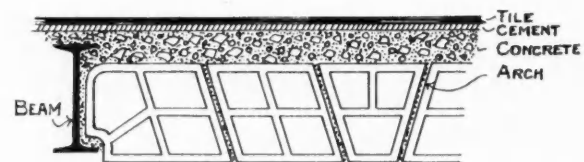

Fig. 3. Tile Floor Over Iron Beams and Tiles
*The tops of iron beams should be three inches below the finished floor line to prevent floors showing lines on the beams* (see Fig. 3).